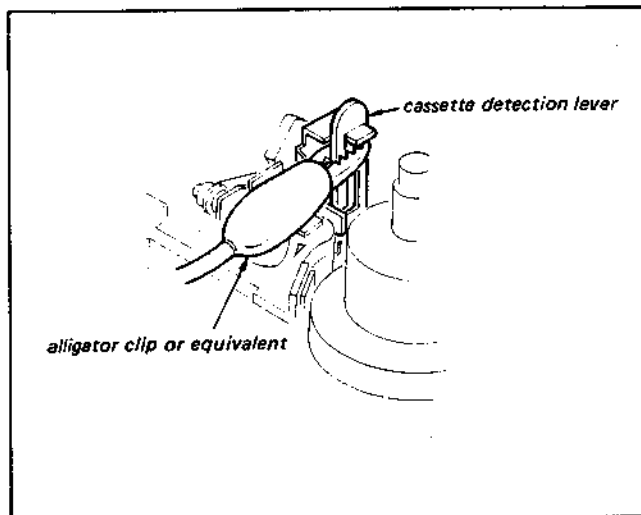
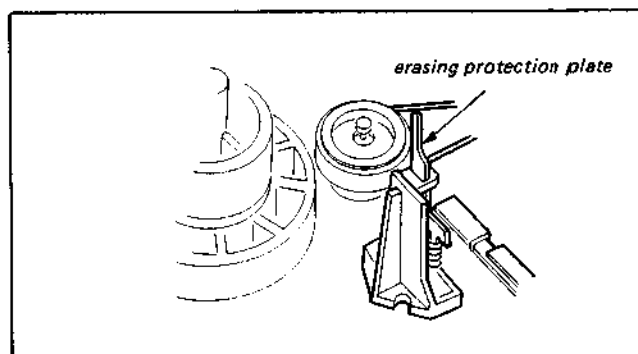

Fig. 1-7.
Fig. 1-8.
- Capture the cassette detection lever with an alligator clip, or an equivalent, as shown in Fig. 1-7, to place the cassette detection switch, mounted on the chassis, into the ON state. Then a desired state of operation can be set up by depressing the function button for the desired state. But note that the PLAY function button must be depressed after performing the procedures for stopping the slack sensor operation described in Section 1-4.
- Capture the cassette detection lever with an alligator clip as shown in Fig. 1-7, manually depress the erasing protection plate as shown in Fig. 1-8, and perform the procedure in Section 1-4, "Stopping Slack Sensor Operation". Then depress the RECORD button or the AUDIO DUB button.